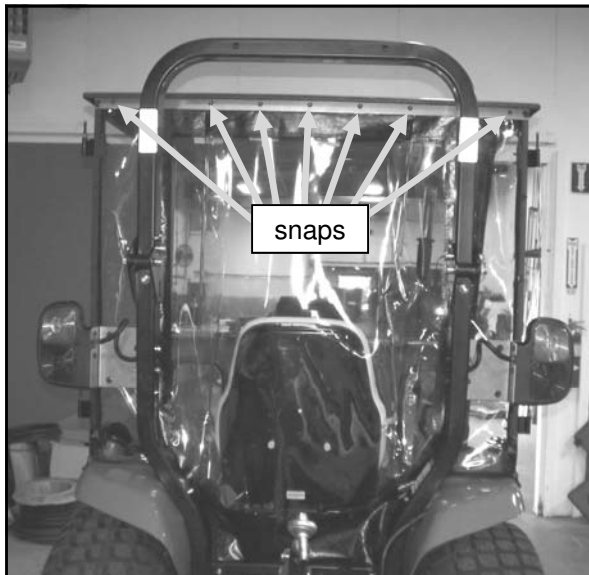

Fig. 12.1 (rear curtain installed)
**12.1** Snap the supplied rear curtain to the inside of the rear panel header. See Fig. 12.1.